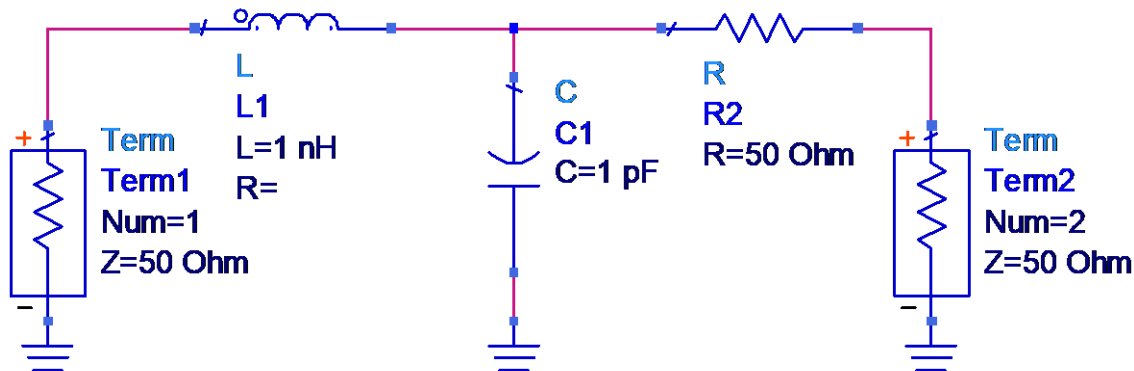

Figure 2: RLC Circuit Schematic
- (j) Starting from the original design workspace, add additional components and replicate the schematic design as shown in figure 2
- (k) Once the circuit of figure 2 has been built, save the design. ADS designs are given the file extension “.dsn” and are stored in the networks folder of the project directory